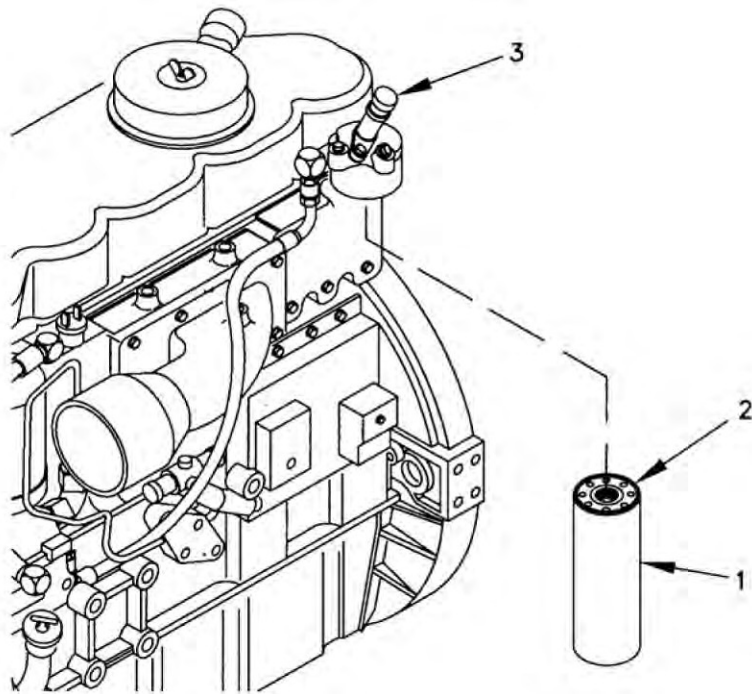

Figure 1. Fuel Filter.
1. Clean area where seal (Figure 1, Item 2) will mate with engine.
2. Apply light coat of fuel to seal (Figure 1, Item 2).
3. Install fuel filter (Figure 1, Item 1) by hand. Turn $\frac{3}{4}$ additional turn after seal (Figure 1, Item 2) contacts base.
7. Operate fuel priming pump (Figure 1, Item 3) until strong pressure is felt.